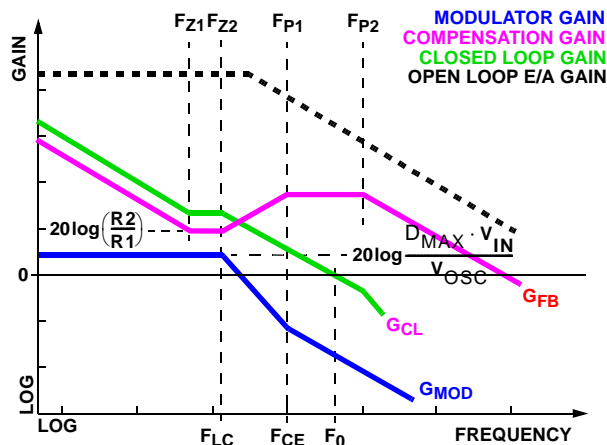

FIGURE 10. ASYMPTOTIC BODE PLOT OF CONVERTER GAIN
Figure 10 shows an asymptotic plot of the DC/DC converter's gain vs. frequency. The actual modulator gain has a high gain peak dependent on the quality factor (Q) of the output filter, which is not shown. Using the above guidelines should yield a compensation gain similar to the curve plotted. The open loop error amplifier gain bounds the compensation gain. Check the compensation gain at  $F_{P2}$  against the capabilities of the error amplifier. The closed loop gain,  $G_{CL}$ , is constructed on the log-log graph of Figure 10 by adding the modulator gain,  $G_{MOD}$  (in dB), to the feedback compensation gain,  $G_{FB}$  (in